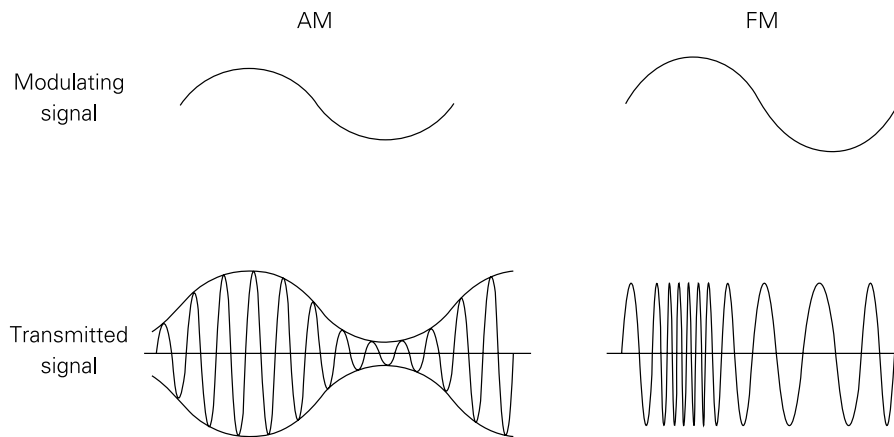

FIGURE 7-21: AM and FM analogue modulation
All radio technologies transmit information over the air by changing or *modulating* one or more properties of a carrier wave in response to that information. Figure 7-21 illustrates two analogue modulation schemes that you have doubtless encountered in everyday life: amplitude modulation (AM) and frequency modulation (FM). The former holds the frequency of the carrier constant and varies its amplitude; the latter holds the amplitude constant and varies the carrier's frequency about a central value.